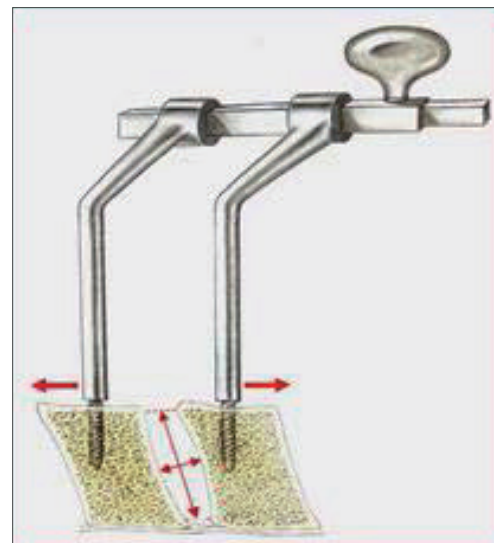

Figure 7
- The maximal expansion of the intervertebral space and exact measurement of graft size is conducted with Caspar Distractor. (Figure 7)